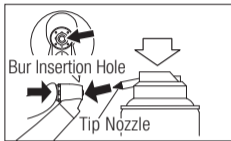

Fig. 10
- 2 Lubricate the chuck directly through the bur insertion hole (Fig. 10).